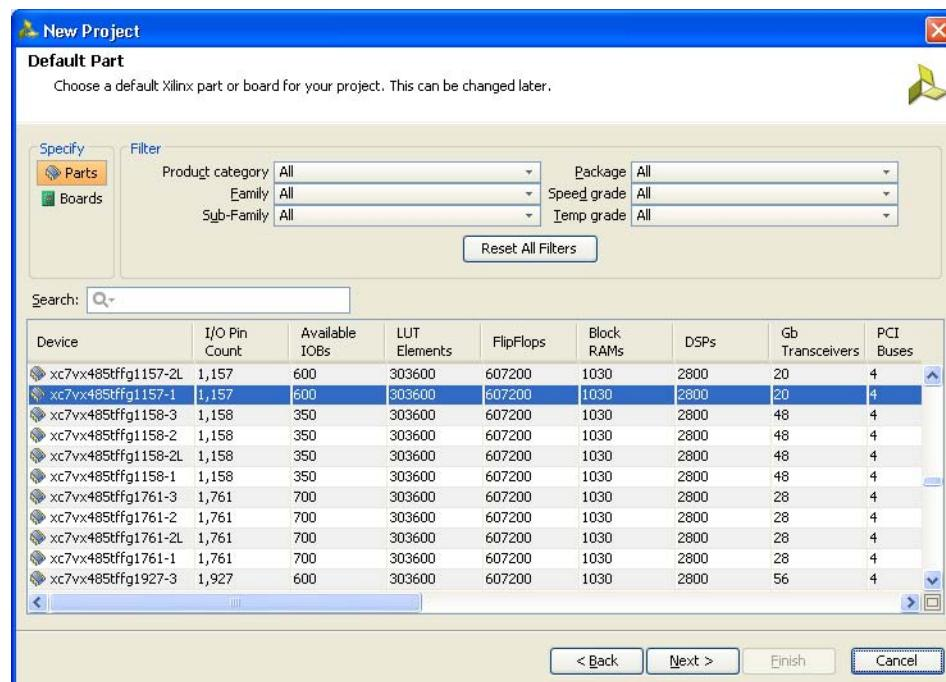

Figure 5-8: Default Part (Default Window)
- Click **Next** to proceed to the **Default Part** page (Figure 5-8) where the device that needs to be targeted can be selected. The **Default Part** page appears as shown in Figure 5-8.